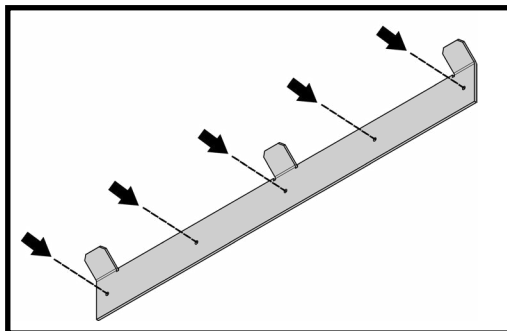

Fig 3.
2. Determine the finished height and position that you want the appliance to be located. Then secure the wall bracket (**Fig 3**) to the wall in the position you need using the wall plugs and screws provided. If you're not securing the appliance to a masonry wall you will need to use the appropriate fixings.